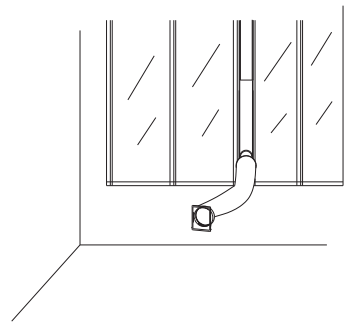

Fig. 8
9. Install exhaust air duct, window kit and their accessories onto window according to Fig8 drawing illustrated.